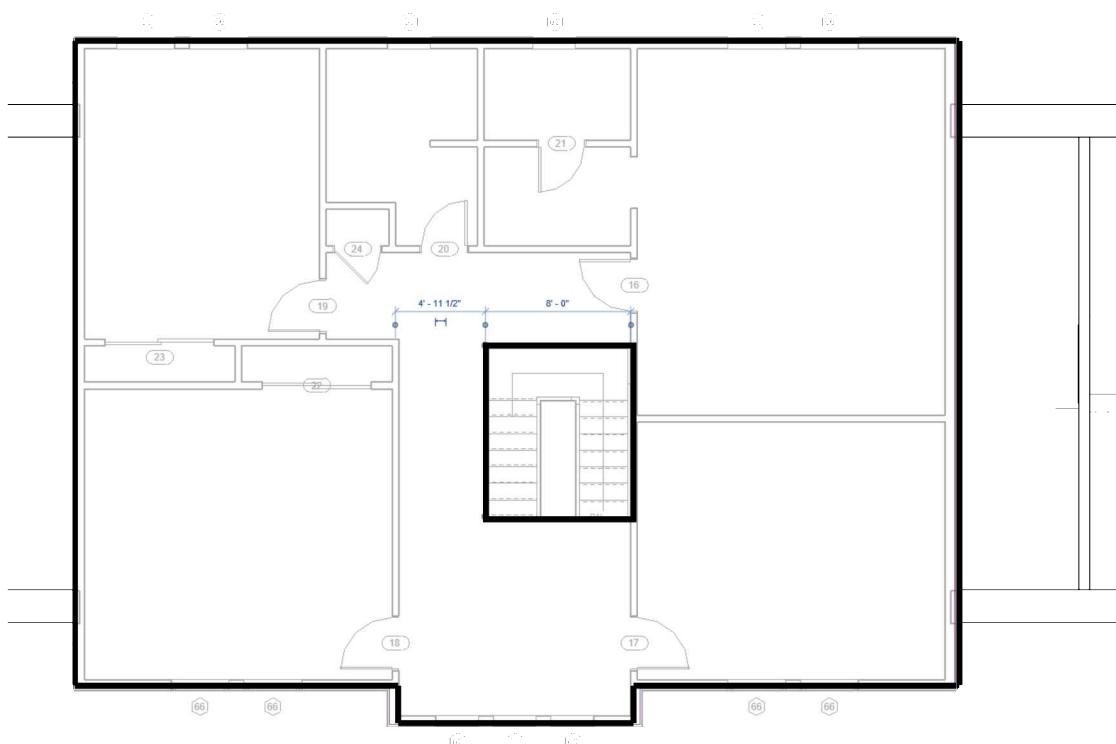

FIGURE 9-1.16 Second floor: sketch lines modified
45. Modify the lines at the far right, using *Delete* and *Trim*, so your sketch looks like Figure 9-1.16.
46. *Stair opening:* Move the West vertical line **4'-11 1/4"** farther West; the horizontal sketch lines should automatically extend, as shown in Figure 9-1.16. The overall width of the stair opening should be **8'-0"**; if not, you should go back and double check your stair dimensions with Chapter 6, page 6-25.